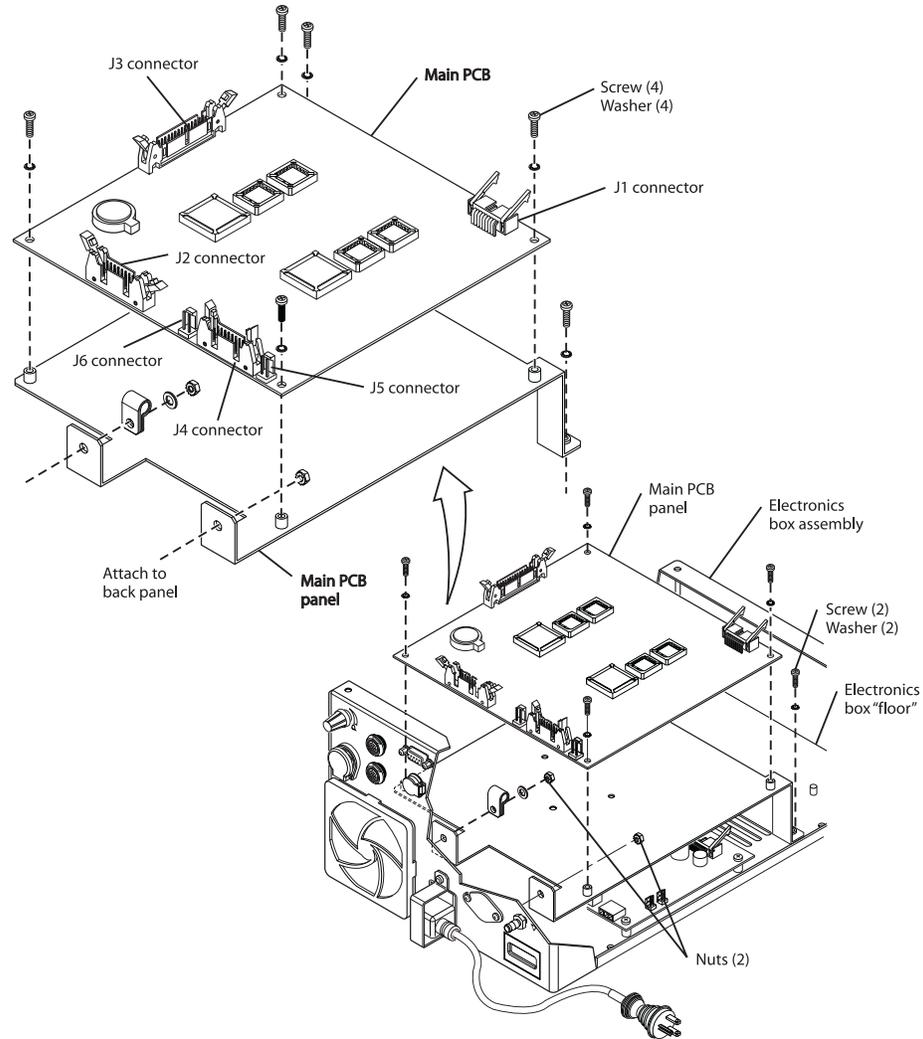

Figure 4-33 Removal of the Main PCB
Refer to Figure 4-33 as you follow these steps.
- 2** Remove the two screws and washers that hold the main PCB panel to the “floor” of the electronics box assembly (see Figure 4-33).